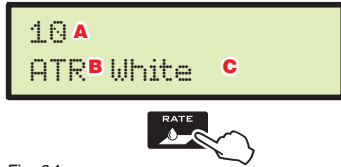

Fig. 64
- Press **OK** to automatically pass to the setting screen of the other parameters (Fig. 64):
B Nozzle type: set the type of nozzle (ATR, HCC, ISO or USR, Fig. 64) for the selected boom section.